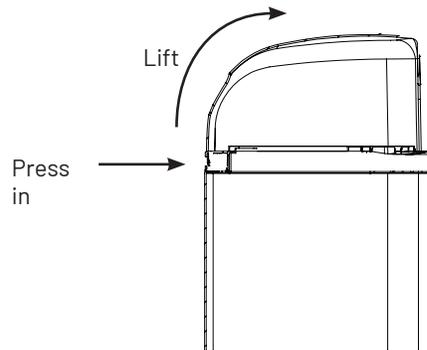

Figure 4.
3. Remove cover by pressing in on the latch and lifting cover ("Figure 4. "). When the cover is removed, the valve is visible. Remove the power adapter. They should be secured to the tank collar near the inlet/outlet connections.